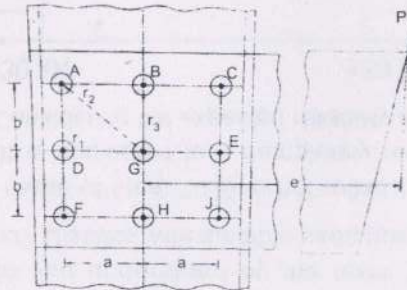

Fig. 3
- (b) A joint, shown in Fig. 3, has distances  $a$  and  $b$  as 50 mm and 75 mm respectively. If  $P$  is 36 kN, determine eccentricity  $e$ , for rivet of diameter 24 mm. Take allowable shear stress as 60 MPa. (4+6=10)